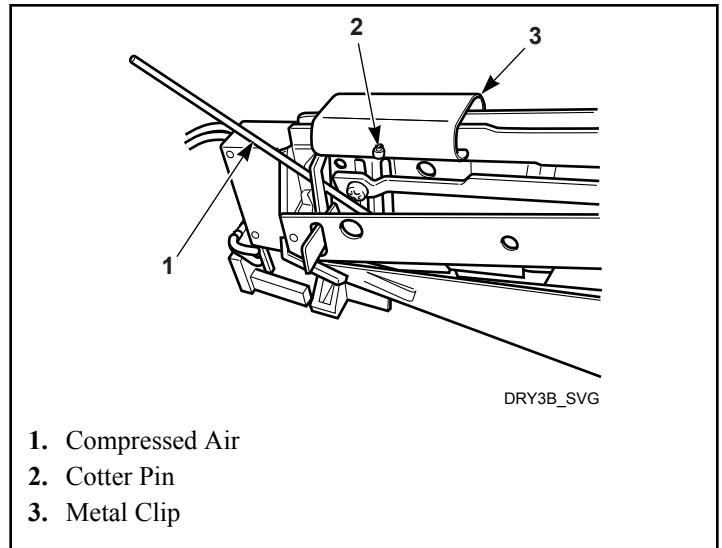

Figure 24
3. If lint is preventing coins from rolling through coin drop, blow compressed air through coin entry and along the side of the coin drop. Refer to *Figure 24*.
5. Remove cotter pin from top of drop. Refer to *Figure 24*. Save pin for reinstallation when cleaning is complete.
6. Move metal clip closer to sensor so that it comes off frame. Refer to *Figure 24*.